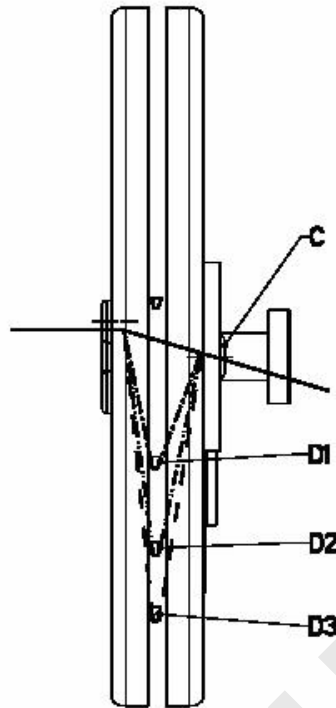

FIG 3.5
**To remedy:** adjust the take-up lever **D** slightly in the direction of C3 (see figure 3.5).
**To remedy:** adjust the take-up lever **D** slightly in the direction of C1 (see figure 3.5).